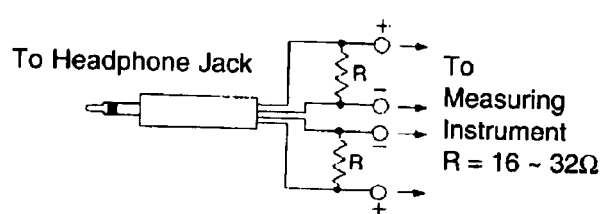

Fig. 2
- Please replace both azimuth adjustment screw (RHE5152ZB) and springs (RM0331) simultaneously when readjusting the head azimuth. (shown in Fig. 2) Even if you wish to readjust the head azimuth without replacing the acrews and springs, a fine adjustment to the azimuth screw and spring.